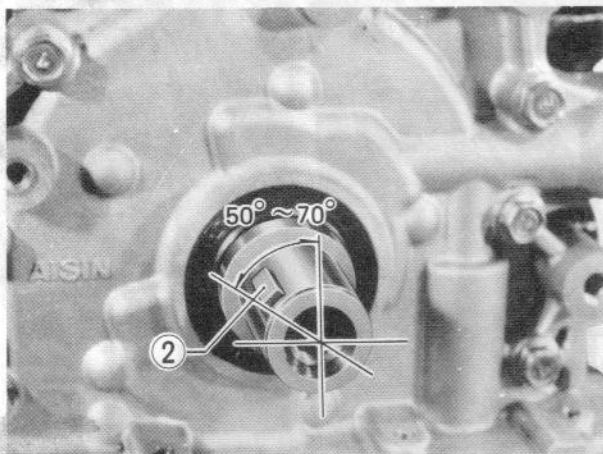

Fig. 4-129
Before installing the rocker-arm shaft on the head, be sure to locate the crankshaft keyway ② in the $50^{\circ} - 70^{\circ}$ angular range, as shown in Fig. 4-129.